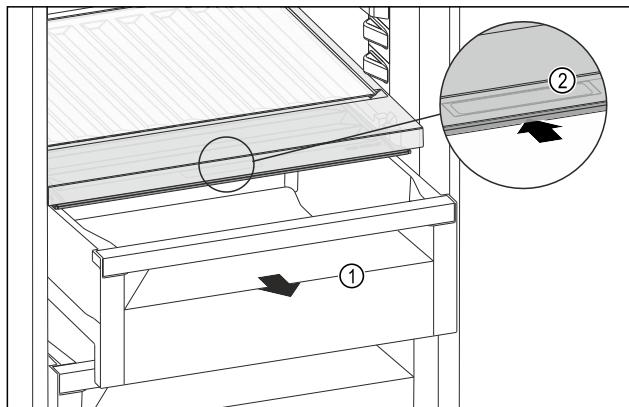

Fig. 150
- Pull out the drawer Fig. 150 (1).
- Grasp the recessed grip Fig. 150 (2) on the compartment lid and push the compartment lid backwards at the same time.